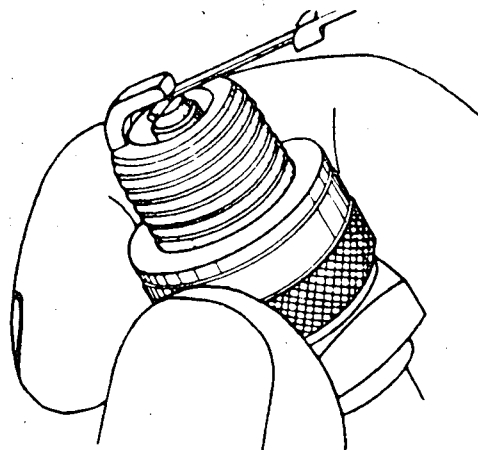

Fig. 5
- b) Gap the electrodes (fig. 5) according to specifications.